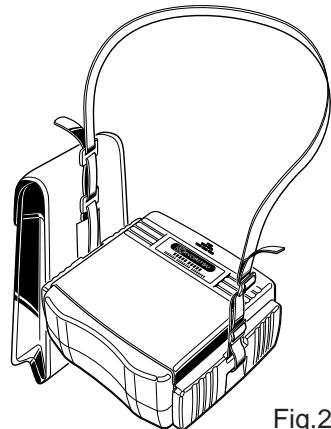

Fig.21
- 2) Pass the strap through the buckle, adjust the strap for length and secure. (Fig. 21)